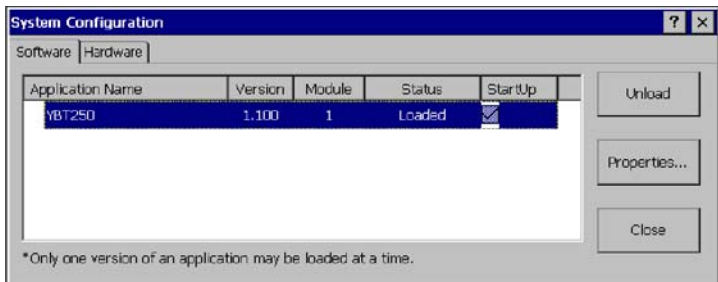

Figure 2-2: Setting the StartUp Application
2. On the Software tab, select the StartUp checkbox for the YBT250. See Figure 2-2.